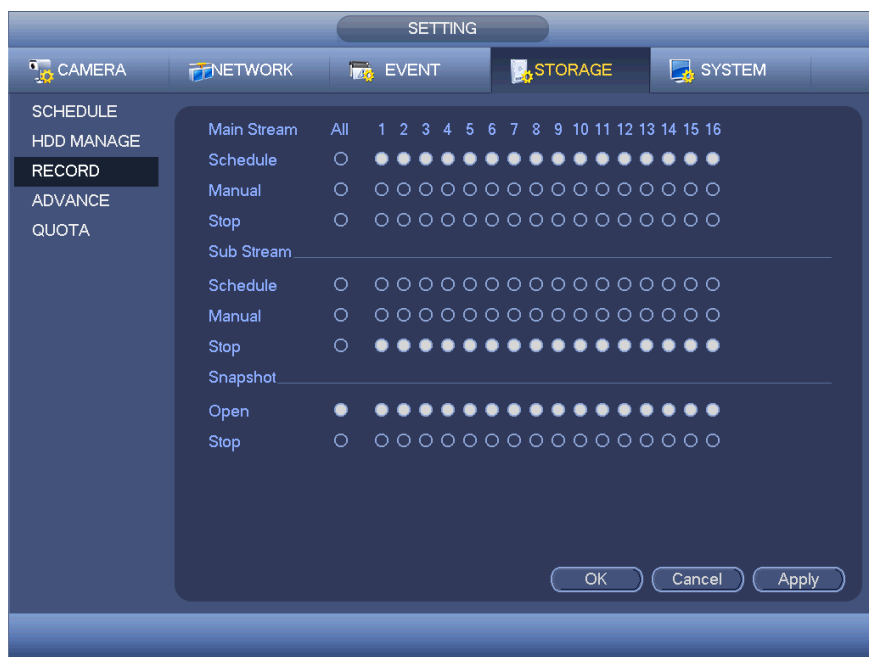

Figure 4-48
- a) Right click mouse and select manual record or in the main menu, from Setting->Storage->Manual Record. Manual record menu is shown as in Figure 4-48.